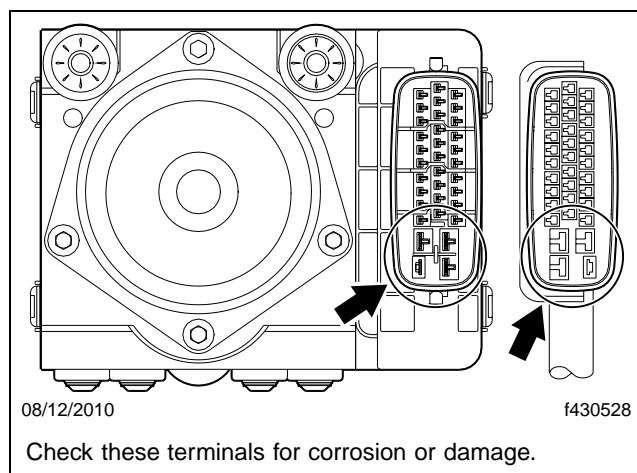

Fig. 5, Connector Terminal Inspection
8. Inspect the connector terminals on the H/U and the harness. See **Fig. 5**.